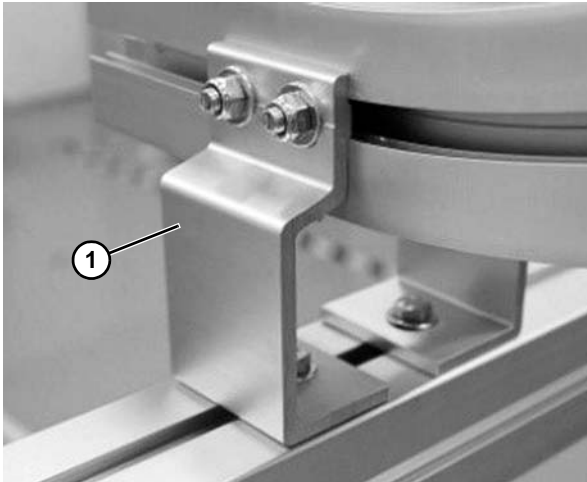

Figure 14
Horizontal beam support brackets (60mm or 80mm) (**Figure 14, item 1**) are used for horizontal support structure mounted to 64x64mm or 80x80mm support beams.